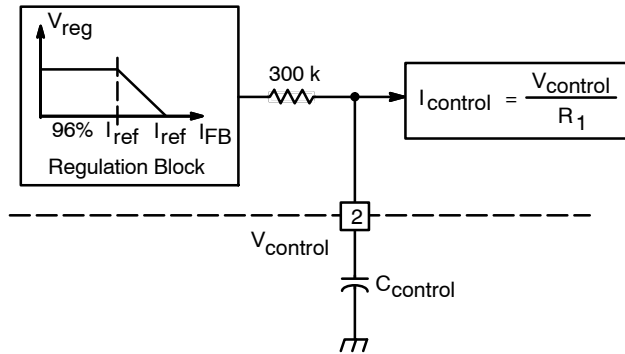
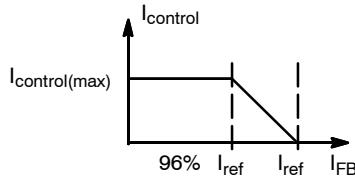

Figure 30. $V_{control}$ Low-Pass Filtering
Figure 32. Regulation Block
Control current $I_{control}$ is a roughly constant current that comes from the PFC output voltage V_{out} that is a slowly varying signal. The bandwidth of $I_{control}$ can be additionally limited by inserting an external capacitor $C_{control}$ to the control voltage $V_{control}$ pin (Pin 2) in Figure 30. It is recommended to limit $f_{control}$, that is the bandwidth of $V_{control}$ (or $I_{control}$), below 20 Hz typically to achieve power factor correction purpose. Typical value of $C_{control}$ is between 0.1 μ F and 0.33 μ F.
Feedback current I_{FB} which represents the output voltage V_{out} is processed in a function with a reference current ($I_{ref} = 200 \mu\text{A}$ typical) as shown in regulation block function in Figure 32. The output of the voltage regulation block, low-pass filter on $V_{control}$ pin and the $I_{control} = V_{control} / R_1$ block is in Figure 30 is control current $I_{control}$. And the input is feedback current I_{FB} . It means that $I_{control}$ is the output of I_{FB} and it can be described as in Figure 32. There are three linear regions including: (1) $I_{FB} < 96\% \times I_{ref}$, (2) $96\% \times I_{ref} < I_{FB} < I_{ref}$, and (3) $I_{FB} > I_{ref}$. They are discussed separately as follows: